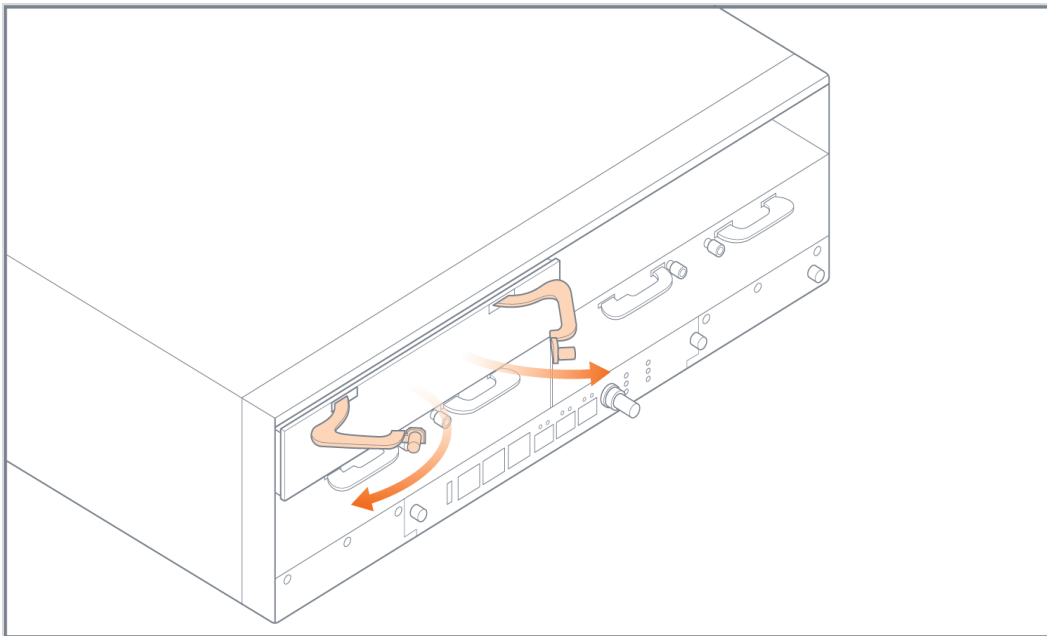

Figure 9: Filler Panel Levers
5. Open the levers on a filler panel as shown in Figure 9: Filler Panel Levers on page 65.